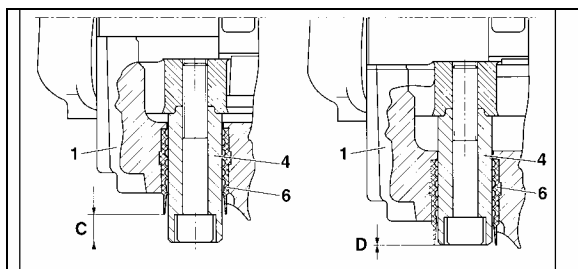

FIGURE 35: BRAKE PAD CHECK 12117
Brake pads have to be checked on a regular basis depending on the vehicle operation. The remaining thickness of the pads should never be less than 3/32 inch (2 mm). To check pad condition without removing the wheel, verify the position of guide bushing (6) relatively to guide sleeve (4) (Fig. 35). When guide sleeve is in alignment with guide bushing, brake pad thickness must be checked more precisely with wheel removed. When replacing the brake pads, all four pads on an axle have to be changed at the same time. There is no inner or outer pad, since all pads are the same. Worn pads should be replaced in the same position.